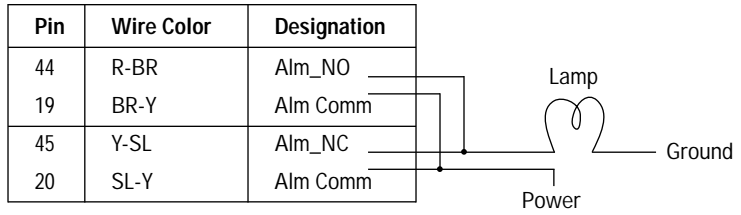

Fig. 15 – Typical alarm contact configuration
6. If required, connect alarm output to customer supplied indicators. See Fig. 15.
1. By utilizing the normally closed contacts. These contacts open during port failure conditions. See Fig 15.
2. By utilizing the normally open set of contacts. These contacts close during port failure. See Fig 15.